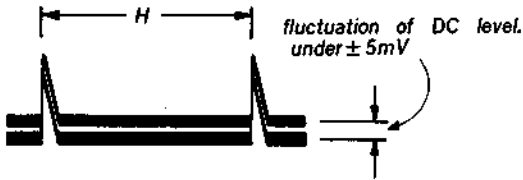

Fig. 5-17. AFC offset adjustment
- (1) Adjust RV003 so that the fluctuation of DC level is minimum (See Fig.5-17)
- (2) Confirm item 11